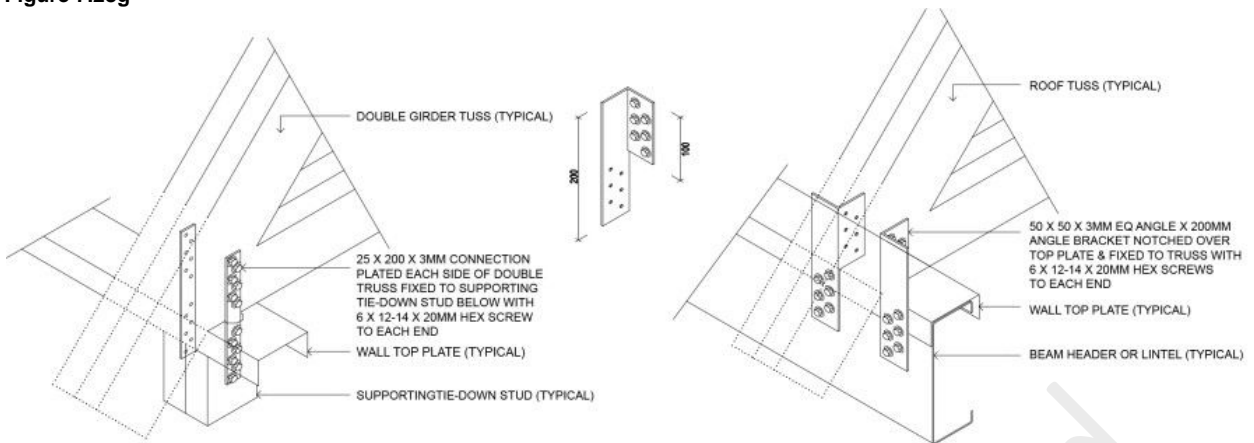

Figure 7.28d Double Girder Truss Hold down with angle and strap tie down option
**STEP 7:** Install the second ply girder truss (if applicable) with the toes of both trusses facing each other and fix it to the brackets as shown in Fig 7.28d. Install 1x12-14x20 Hex Head screws through EVERY service hole provided on the bottom chord to connect the two trusses together as shown in Fig. 7.28f Install 200 long plate sections with 4x12-14x20 hex-head screws to top chord near apex and midspan of top chord.